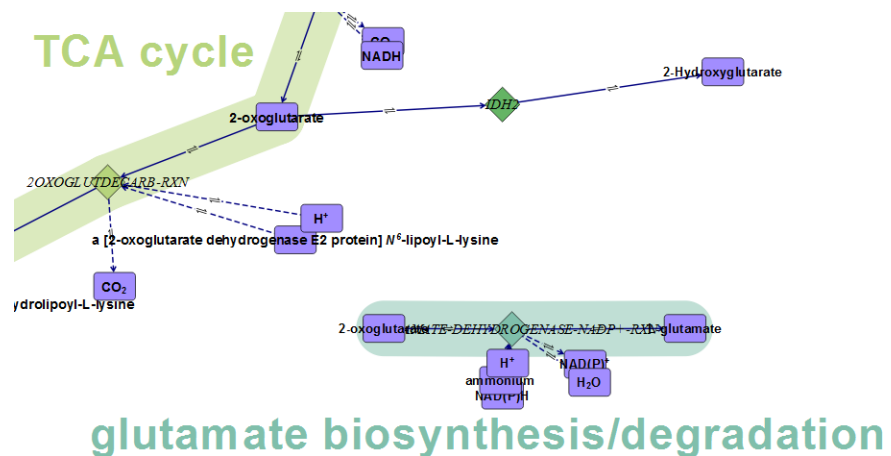

Figure 87 Drawing Area with the glutamate biosynthesis/degradation pathway
- h Drag the pathway name glutamate biosynthesis/degradation to a position below the pathway so you can access the individual metabolites and reactions associated with the pathway (Figure 87).